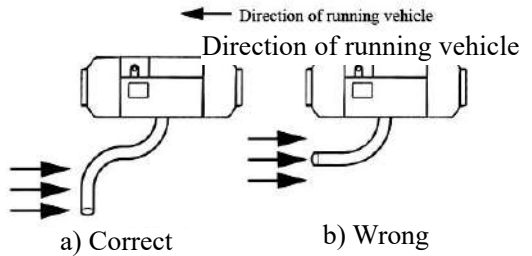

Fig.25
4.6.4 The openings of the pipes shall not be opposite to the direction of the running vehicle. (Fig. 25)